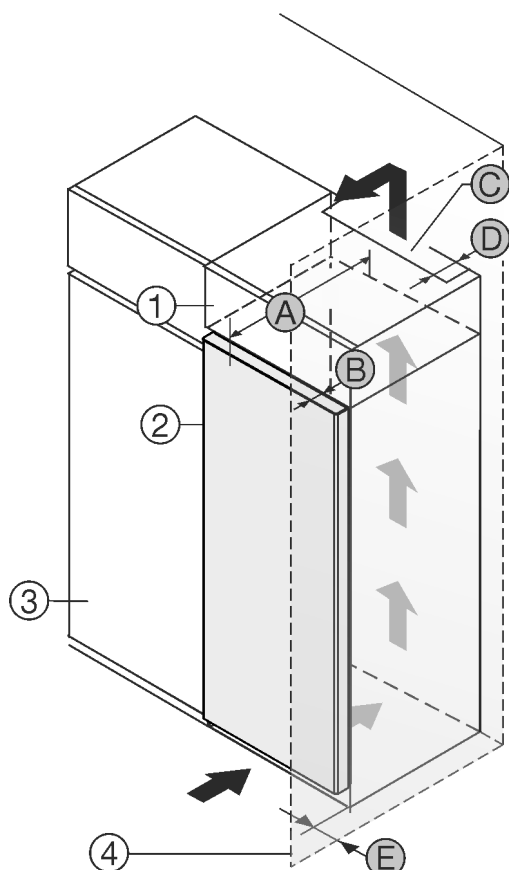

Fig. 1
Set up the appliance directly next to the kitchen cabinet Fig. 1 (3).*
Set up the appliance with a distance of 5 cm between the appliance and the kitchen cabinet Fig. 1 (3).*
There must be a ventilation shaft with depth Fig. 1 (D) at the back of the top cupboard over the entire width of the top cupboard.*
The cross section of the ventilation gap Fig. 1 (C) must be maintained below the ceiling.*
If the appliance is installed with the hinges next to a wall Fig. 1 (4), the distance between the appliance and the wall must be at least 40 mm. This is how far the handle protrudes when the door is open.*